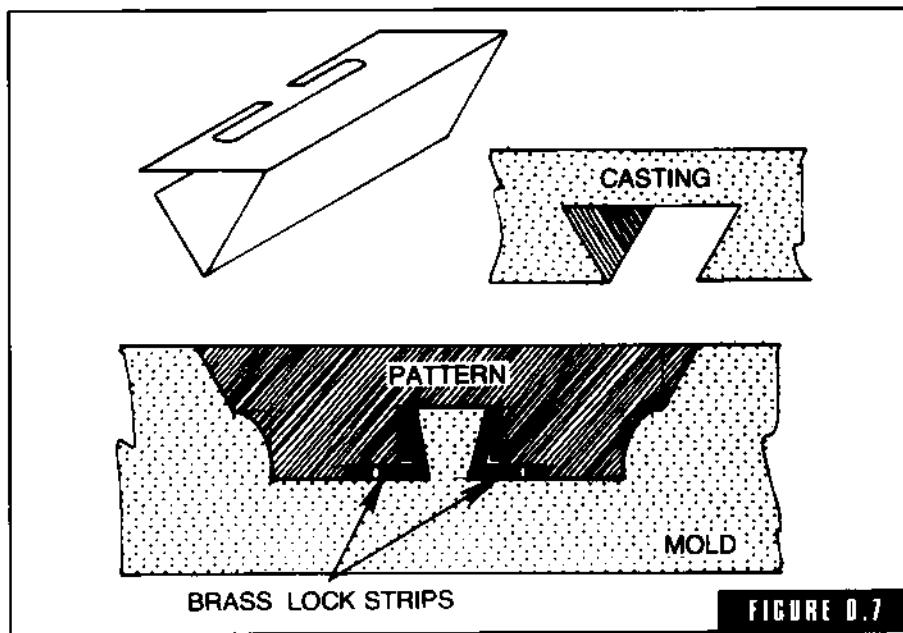

FIGURE D.7
**dovetails** Tin forms which permit the accurate casting of dovetailed grooves, either straight or tapered (Fig. D-7).